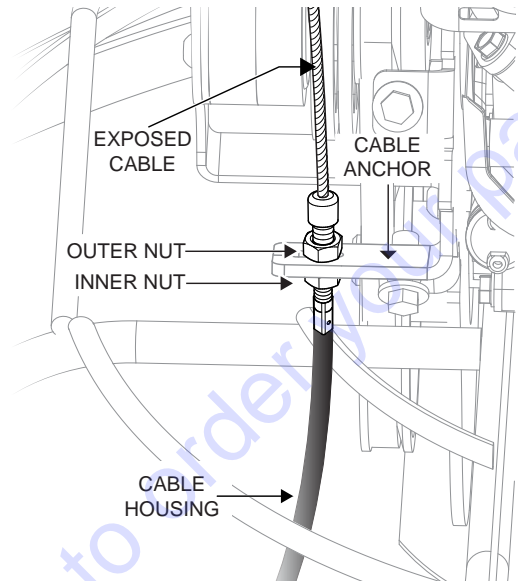

Figure 19. Attaching Clutch Cable To Cable Anchor
9. Place outer nut (Figure 19) onto the threaded end of the clutch cable. Hand tighten nut against the cable anchor.